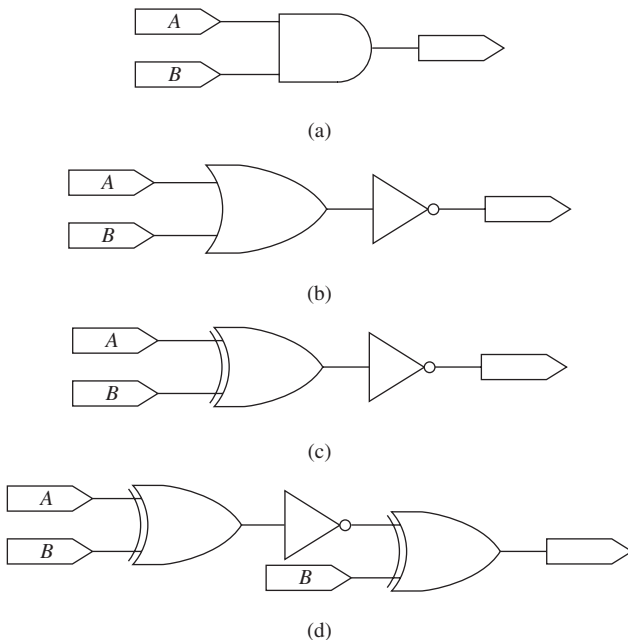

FIGURE P10.45 Circuit for Problem 10.45.
- 10.45** (A)* If $A = 0$, $B = 1$, which circuit as shown in Figure P10.45 will output 1?
10.71 (B)* If $A = 0$ and $B = 1$, use PSpice to find the logic circuit which generates an output of 1 in Figure P10.45.